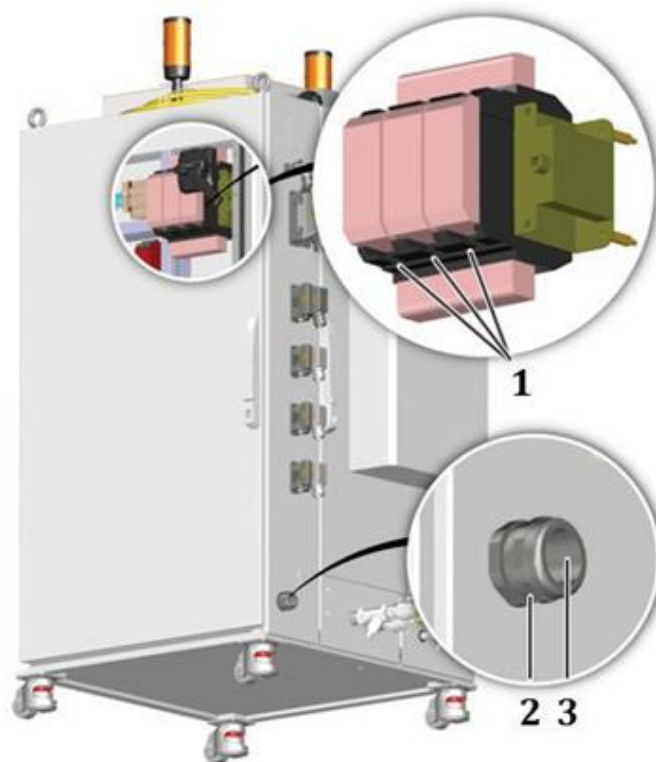

Figure 5-5 Power connections
2. Run the AC power cable through the strain relief (Figure 5-5 items 2&3) located at the rear of the laser.
4. Connect the three power conductors to main switch (Figure 5-5 item 1).